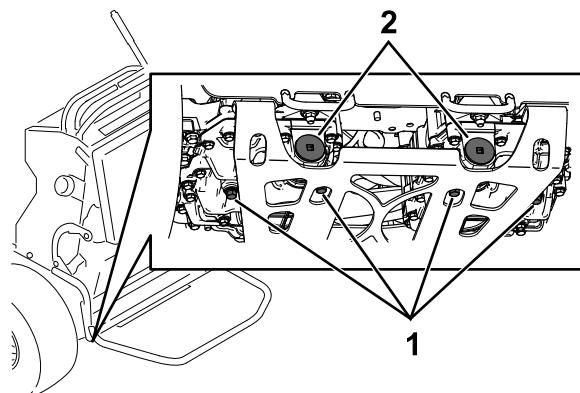

Figure 82
- Locate the drain plug in the bottom of each transmission and place a drain pan under the plugs (Figure 82).